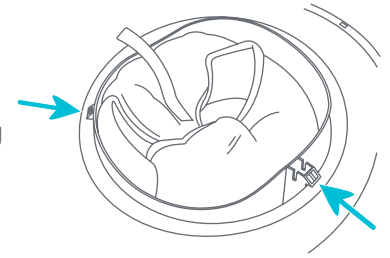

Fig. 2a
- Push the tabs inward to detach the seat from the top plate before assembling (Fig. 2a).